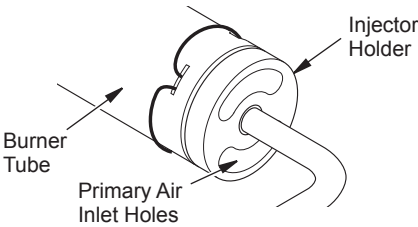

Figure 56 - Injector Holder On Outlet Burner Tube
2. Inspect burner, pilot, and primary air inlet holes on injector holder for dust and dirt (see Figure 56, page 29).